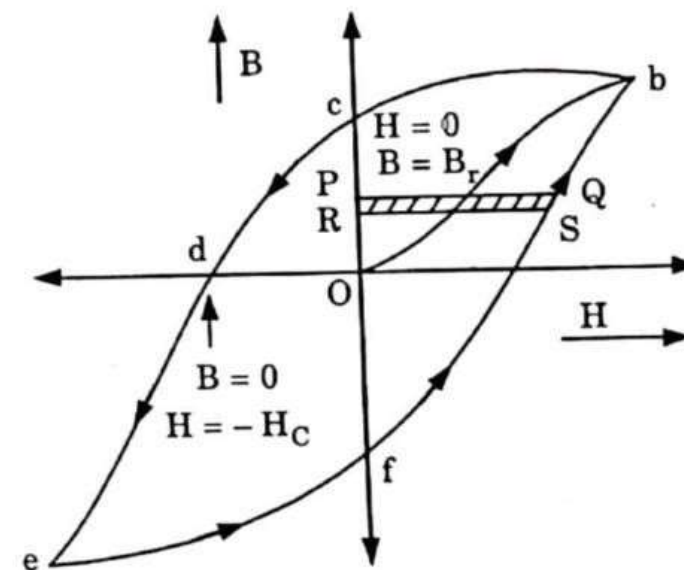

Fig. 3.2.1. Hysteresis loop.
- i. Plotting a graph between B and H for a ferromagnetic material is known as hysteresis curve or B - H curve as shown in Fig. 3.2.1.
- iv. **Residual magnetism :** It is defined as the magnetic flux density which still persists in magnetic material even when the magnetising force is completely removed. In Fig. 3.2.1 on reducing the value of H from the saturation region to zero there remains a flux density B_r , which is residual magnetism.
- v. **Coercive force (field) :** It is defined as demagnetizing force which is necessary to neutralize completely the magnetism in an electromagnet when the value of magnetizing force becomes zero. In Fig. 3.2.1, H_c is required to reduce flux density to zero and is called coercive force.